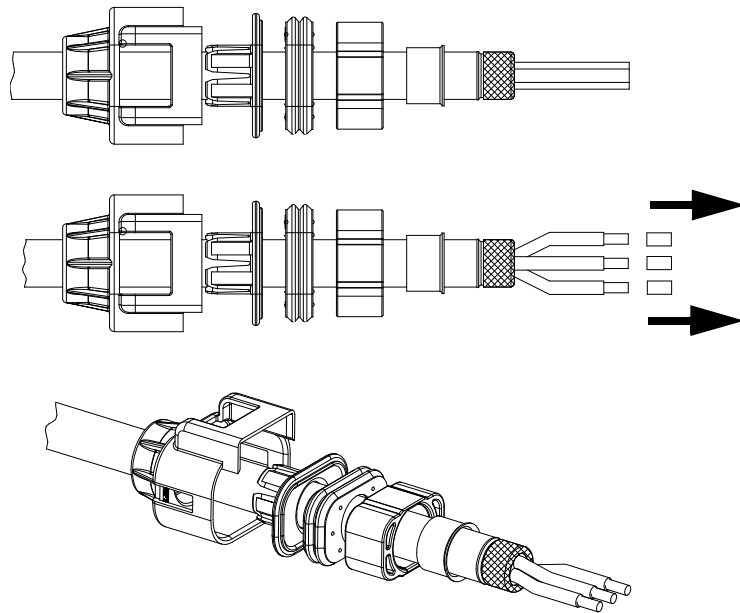

Figure 7
5. Separate conductors and strip to length as shown in Figure 7. Refer to Application Specification 114-18148-1 or 114-18387 for appropriate strip length.